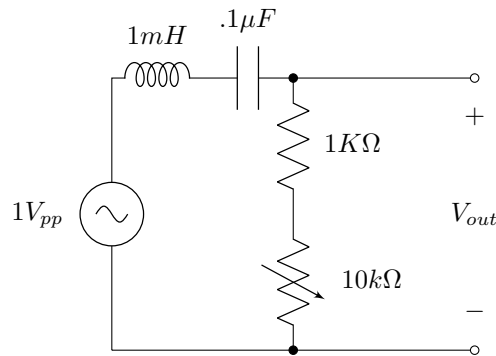

Figure 11: RLC Band Pass Filter
1. For the band filter above, calculate the center frequency of the band pass filter in Figure 11.